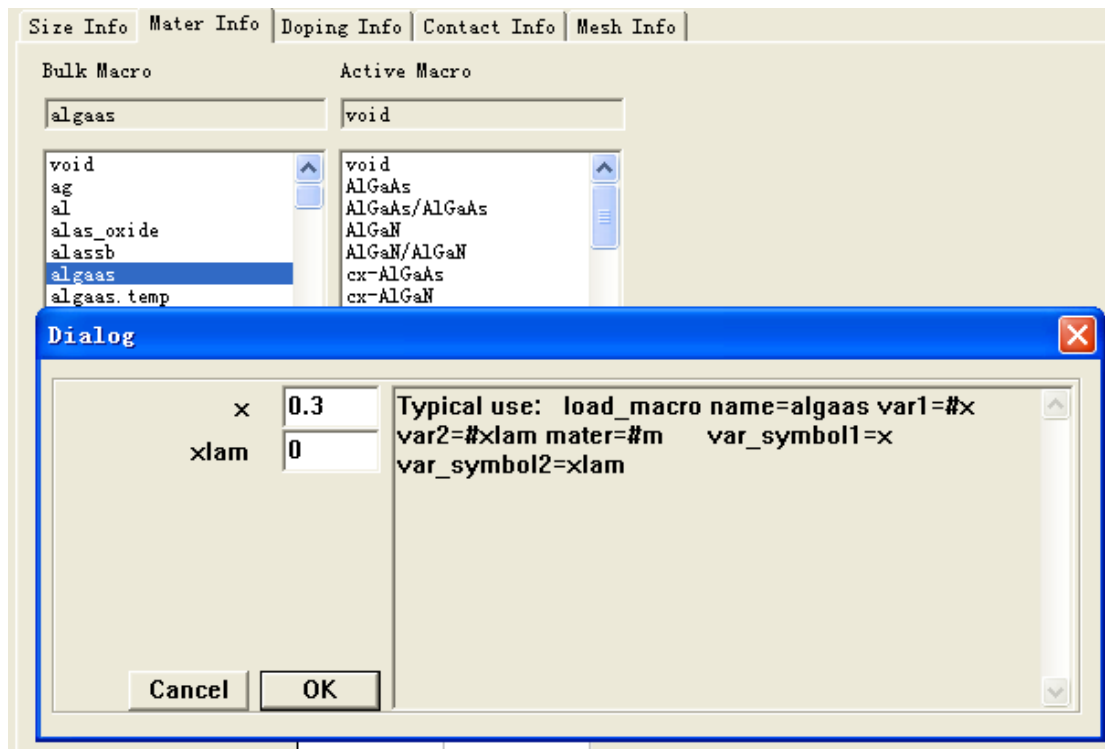

Figure 7.4: Material Information
4. Left-click on [Mater Info] on the top of the Dialogue to define the material. The default, algaas is already displayed in the list box. Click on [Show Load macro Param] to set $X=0.3$ ($X=0.3$ in $\text{Al}(X)\text{Ga}(1-X)\text{As}$). Click on OK to confirm. See Figure 7.4